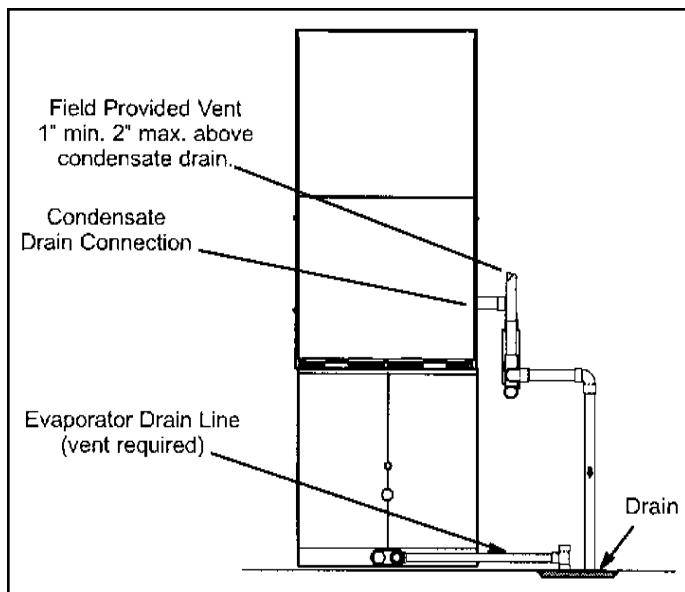
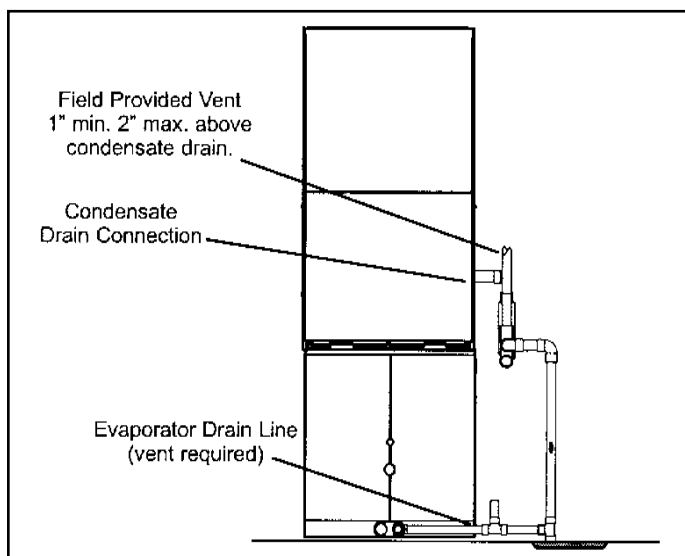

Figure 48. Evaporator Coil Using a Separate Drain
Figure 49. Evaporator Coil Using a Common Drain
5. Figure 48 shows the furnace and evaporator coil using a separate drain. If necessary, the condensate line from the furnace and evaporator coil can drain together. See Figure 49. The field provided vent must be a minimum 1" to a maximum 2" length above the condensate drain outlet connection.